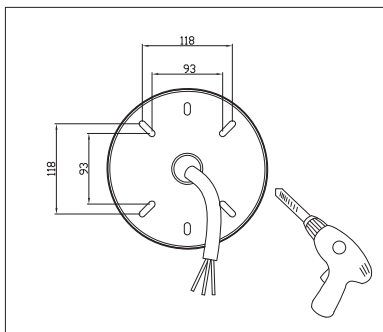

Figure 7
**STEP 4:** Drill holes on the wall according to the locating plate (Figure 7)